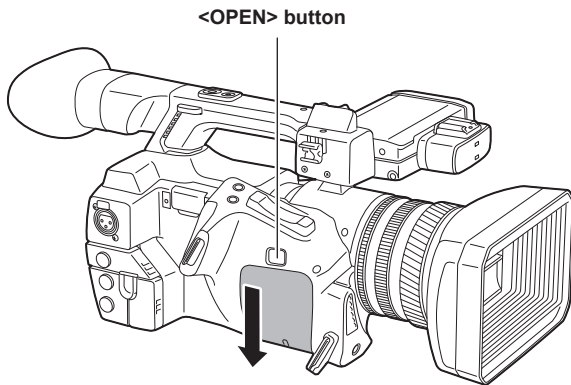

Fig. 1
- 1** Press the <OPEN> button and remove the cover by sliding it in the direction of the arrow. (Fig. 1)